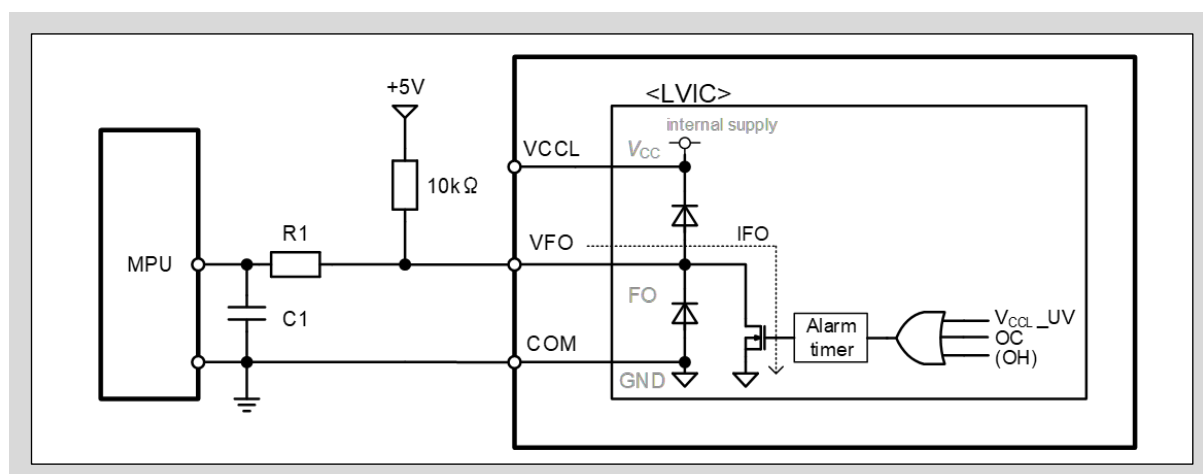
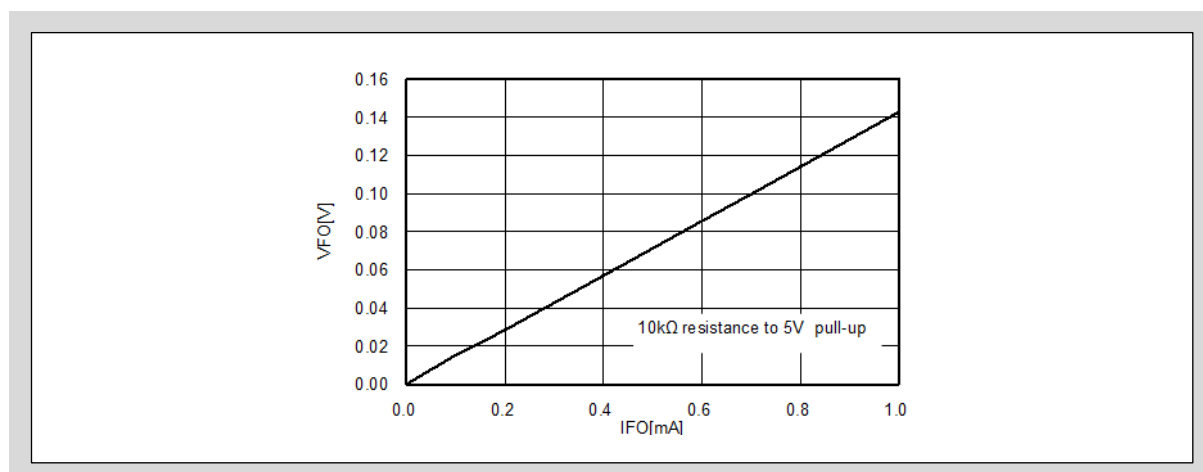

Fig.3-21 Recommended MPU I/O Interface Circuit of VFO terminal
Fig.3-22 Voltage-current Characteristics of VFO terminal at the fault state condition
- As shown in Fig.3-21, it is possible to connect the fault status output VFO terminal directly to the MPU. VFO terminal is open drain configured, thus this terminal should be pulled up by a resistor of approximate 10kΩ to the positive side of the 5V or 3.3V external logic power supply. It is also recommended that the bypass capacitor C1 and the inrush current limitation resistor R1 above 5kΩ, should be connected between the MPU and the VFO terminal. These signal lines should be wired as short as possible.
- Fig.3-21 shows that the diodes in the IPM are electrically connected to the VCCL-VFO and VCCL-COM terminals. Do not use these diodes for voltage clamp purpose otherwise the product might be damaged.
- Fig.3-22 shows the Voltage-current characteristics of VFO terminal at fault state condition. The I_{FO} is the sink current of the VFO terminal as shown in Fig.3-21.